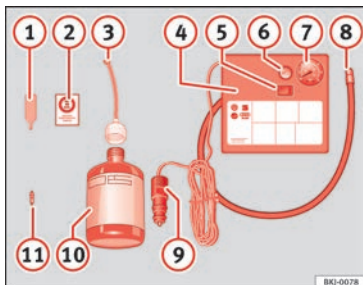

Fig. 90 Standard representation: contents of the anti-puncture kit.
The anti-puncture kit is located underneath the floor covering in the luggage compartment. It includes the following components » **Fig. 90:**
Screw in the inflator tube » **Fig. 90** ⑧ again and check the pressure on the gauge ⑦.